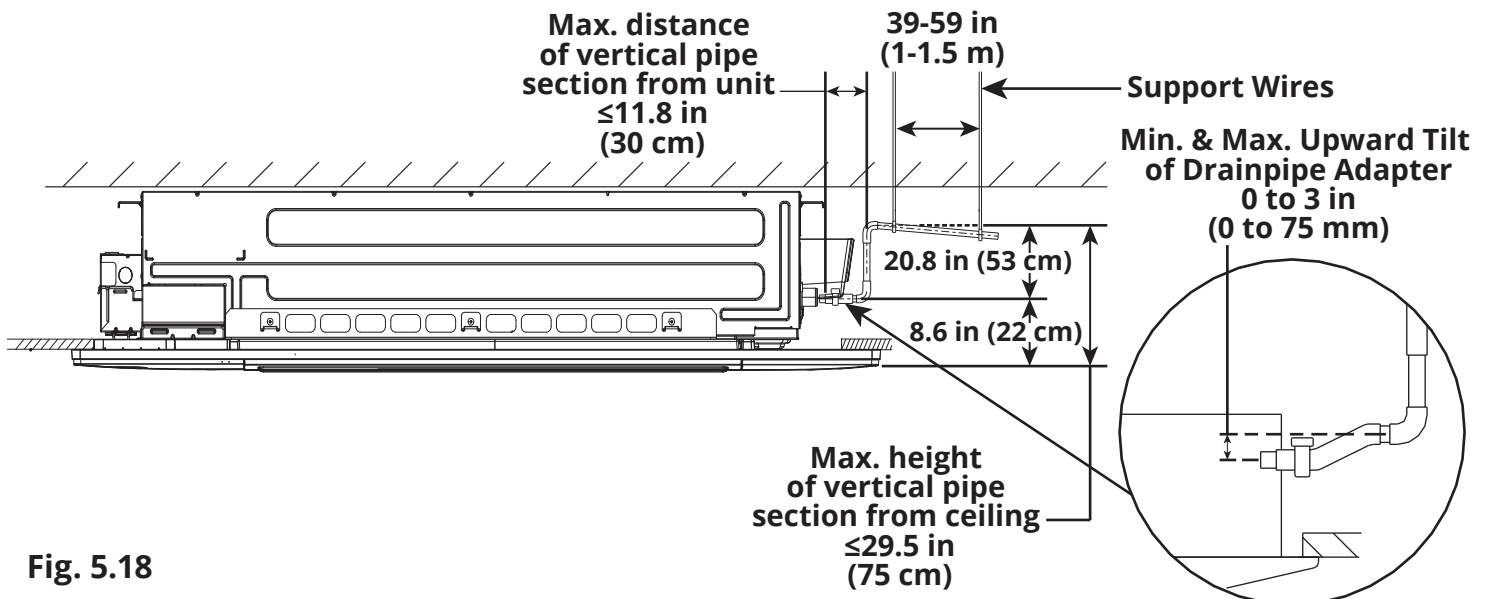

Fig. 5.18
- If the outlet of the drainpipe is higher than the drain outlet of the cassette body, create a vertical section in the drainpipe. This section of vertical pipe must not be higher than 29.5 in (75 cm) from the ceiling drywall and must have a distance of less than 11.8 in (30 cm) away from the unit (refer to Fig. 5.18). Incorrect installation could cause water to flow back into the unit and flood which could result in property damage.
- To prevent air bubbles from forming, keep the drain pipe adapter level or slightly tilted up at an height of less than 3 in (75 cm). Refer to Fig 5.18.